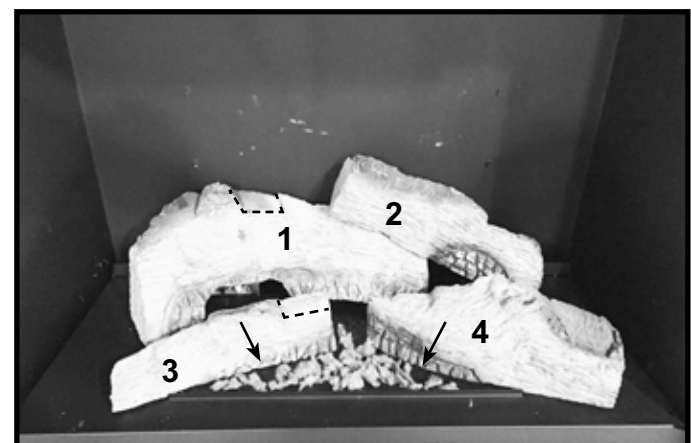
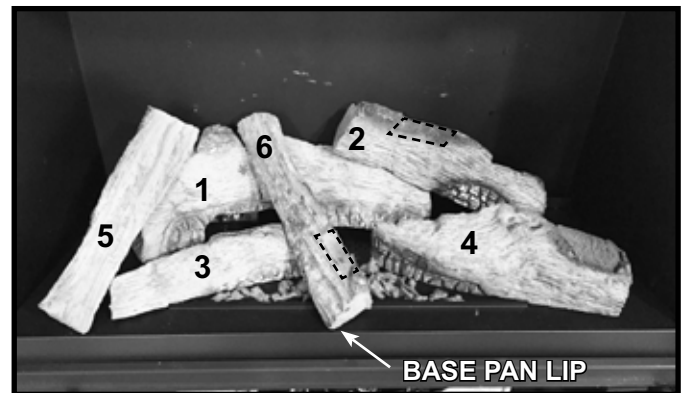

Figure 8.
Figure 11. Install Middle Left Cross Log
6. Locate the glowing embers and install them as shown in Figure 1. Do not install any glowing embers on the back row of burner ports. Glowing Embers can be placed directly over burner ports; however, for optimal front flame height, place glowing embers around the burner port clusters indicated by the "arrows" shown in Figure 8.
9. The Middle Left Cross Log (6) will rest on the voids and the base pan lip as shown in figure 8. Install log by placing it on top of the log voids. The tip of the log will contact front lip of base pan. See Figure 11.
10. The middle right cross log (7) will rest on two voids shown in Figure 11, install log by placing it on top of these voids. See Figure 12.